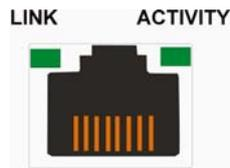

Figure 4-7: LAN Indicators
A shielded Ethernet cable is recommended for connecting the RJ-45 Ethernet management port to a local network after you configure an IP address. This enables you to manage your subsystem via LAN or WAN. Two (2) LEDs on the Ethernet port indicate connection statuses. See *Figure 4-7* for the locations of the LED indicators. Refer to *Table 4-5* for the LED definitions.